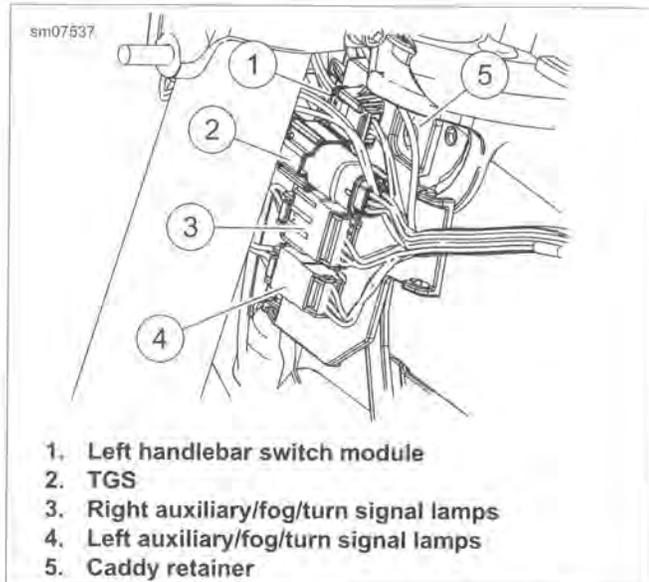
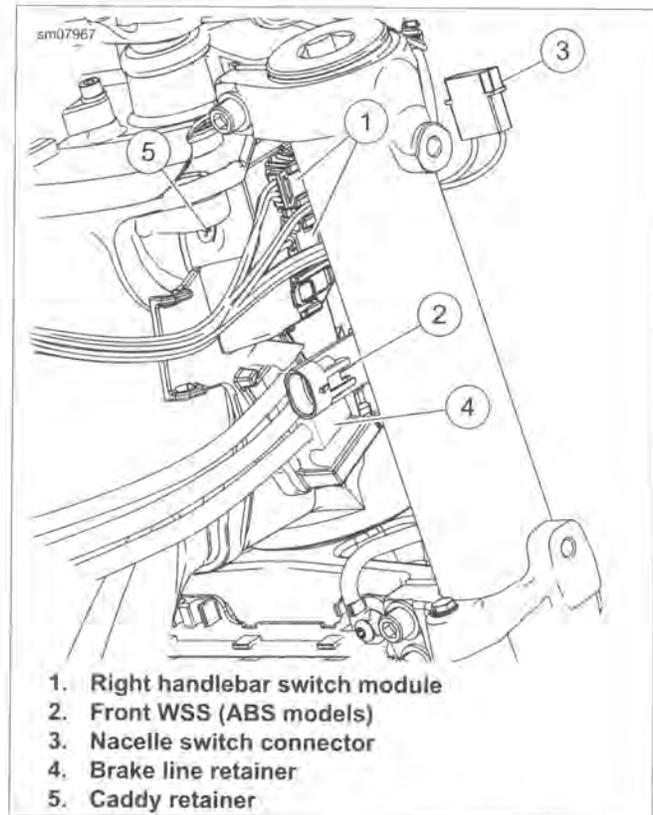
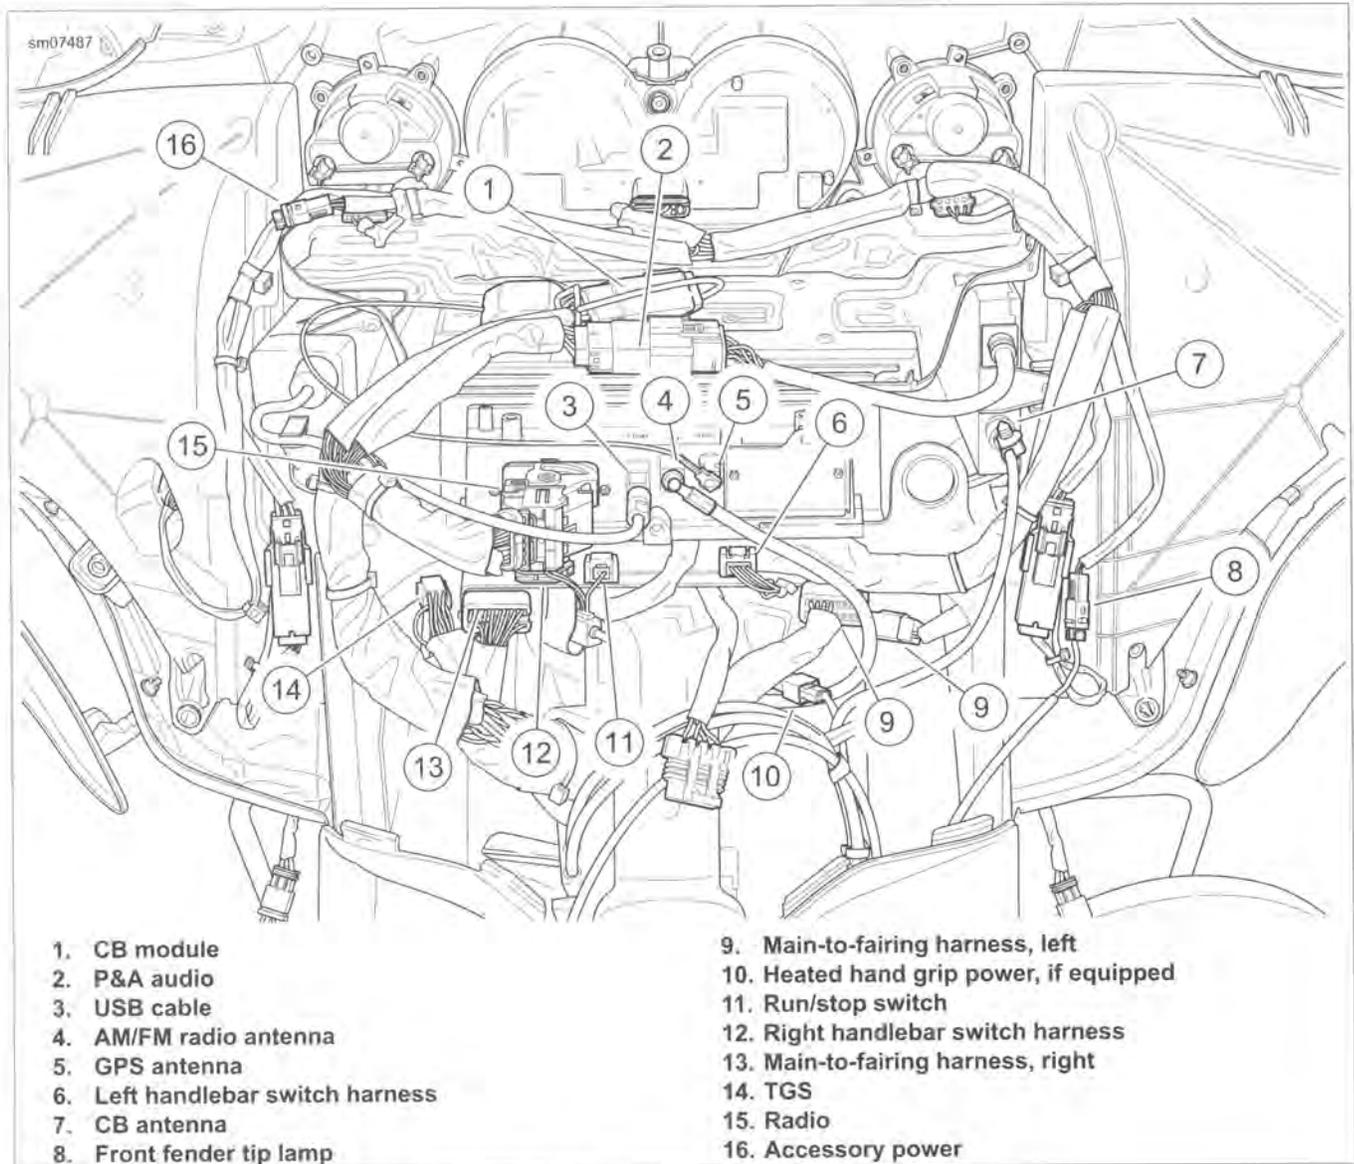

Figure 2-101. Left Side Connectors: Road King
Figure 2-102. Right Side Connectors: Road King
Figure 2-103. Inner Fairing Harness Connectors
- a. See Figure 2-101. Separate left handlebar switch (1) and TGS (2) connectors.
- b. See Figure 2-102. Separate right handlebar switch connectors (1).
- b. See Figure 2-103. Separate TGS connector (14).
- c. Disconnect heated hand grip power connector (10) if equipped. The hand grip interconnect harness does not require disconnection.
- a. See Figure 2-103. Mate TGS harness (14). Connect handlebar switch harness connectors (6, 11, 12).
- b. Connect heated hand grip power connector (10), if equipped.
11. **Road King Models:** See Figure 2-101 and Figure 2-102. Mate left handlebar switch (1) and TGS (2) connectors. Mate right handlebar switch connectors (1).